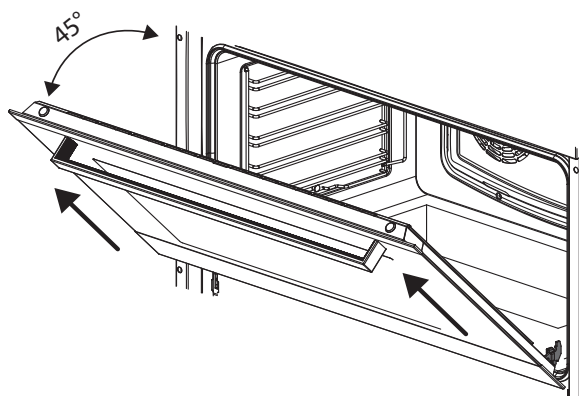

Fig. 8
- Lift the door up and out of the oven to remove it from the oven as in Figure 8.